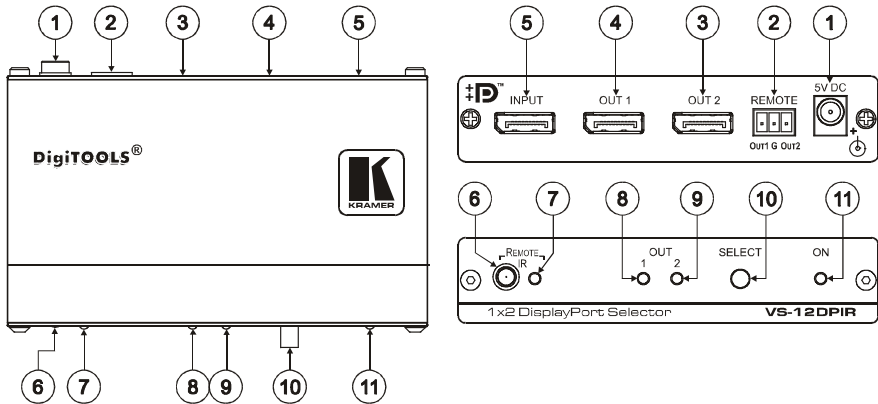

Figure 1: VS-12DPIR 1x2 DisplayPort Selector
Figure 1 and Table 1 define the **VS-12DPIR 1x2 DisplayPort Selector**:
1. Point the remote control transmitter at the remote receiver (item 10 in Figure 1 / Table 1) and press the GROUP key.
2. Press key 11.